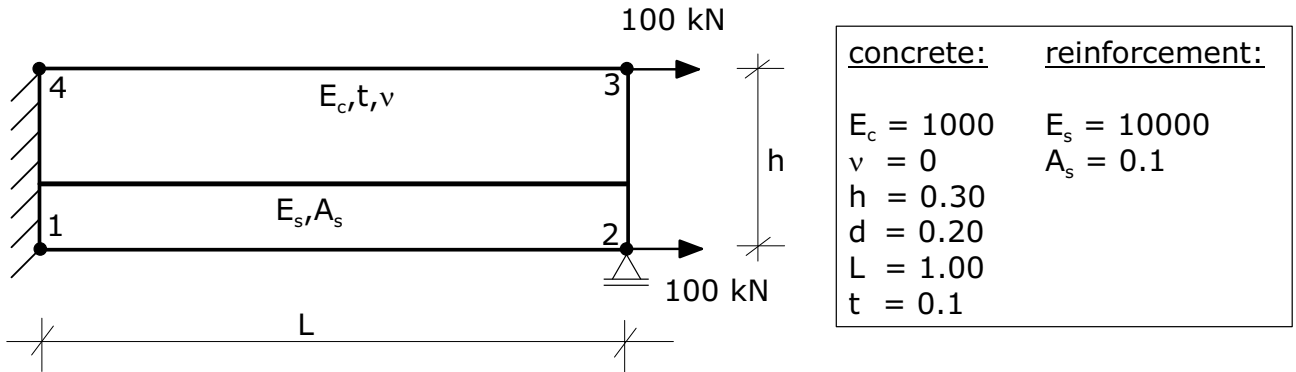

Figure 2: System and loading
- c) Compute all components of the stiffness matrix \mathbf{k}^{inc} which are necessary for the calculation of the displacement field shown in Figure 2 and calculate all unknown nodal displacements!